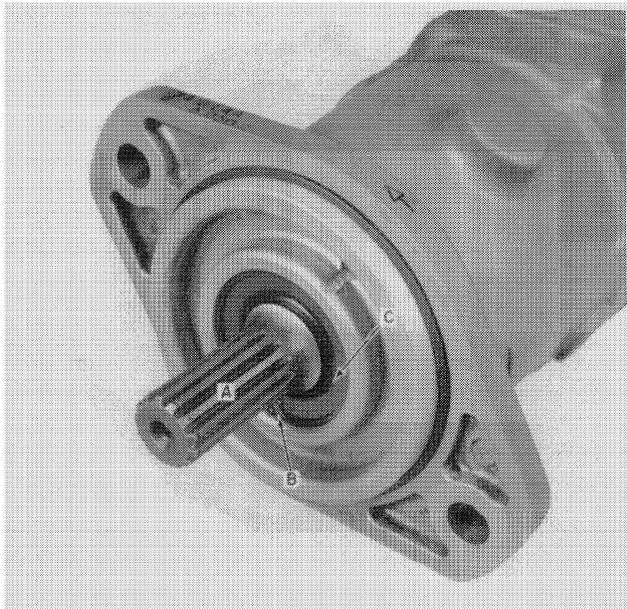

FIGURE 1-12
9. To remove drive shaft, A, Figure 1-12, first remove retaining ring, B.
4. Lubricate the inside (ID) of the oil seal and install as shown at C, Figure 1-12. Install retaining ring, B.